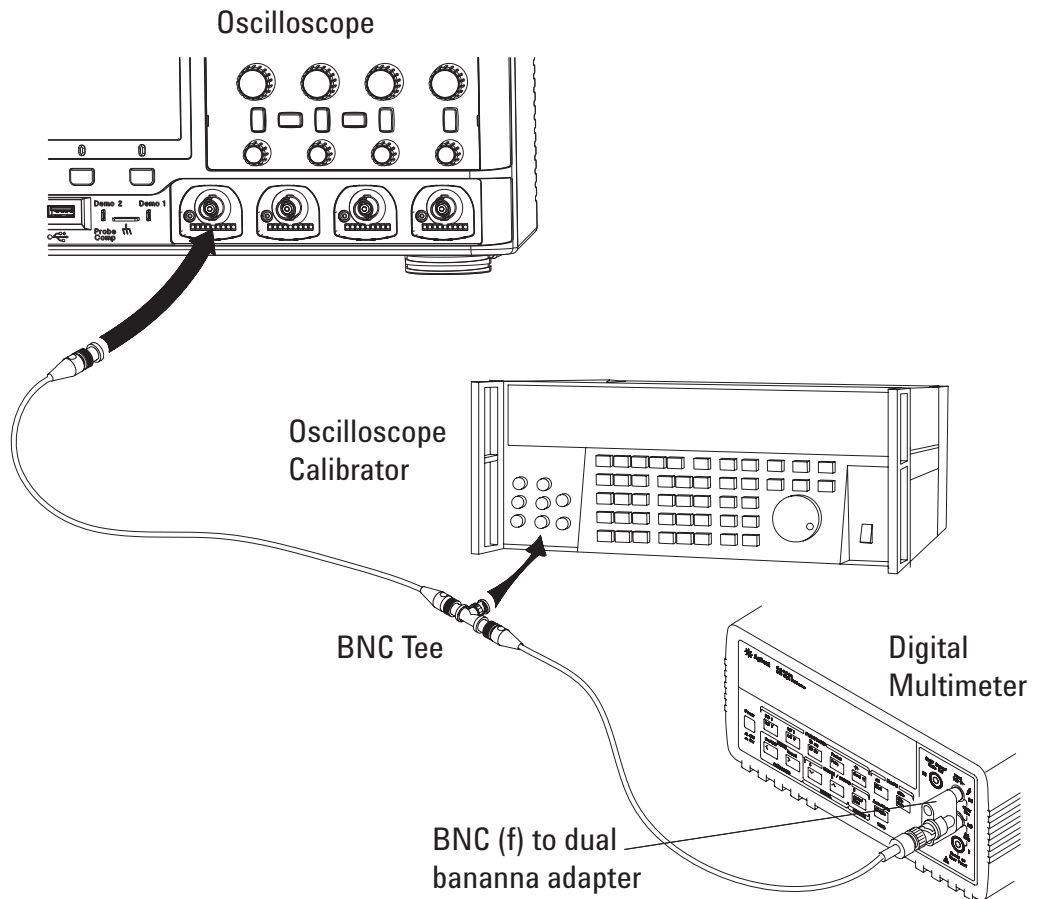

Figure 5 Setting up Equipment for Dual Cursor Accuracy Test
- 4 Use the BNC tee and cables to connect the oscilloscope calibrator /power supply to both the oscilloscope and the multimeter (see **Figure 5**).